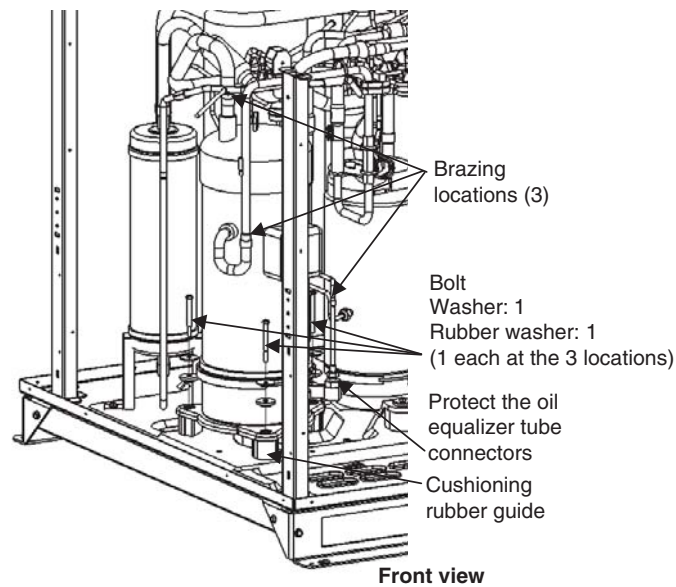

Fig. 28
- (6) Set the remaining cushioning rubber beneath the new compressor leg at the locations shown in the figure 28.
- (7) Remove the bolts which are temporarily fastening the 2 pieces of cushioning rubber, and anchor the 3 compressor legs using the bolts, washers, and rubber washers.
- (8) Insert the pre-shaped tube assembly at the 3 brazing locations indicated.
- (9) Connect the manifold gauge to the high- and low-pressure outlet ports at the outdoor unit where the compressor was replaced. Connect the manifold gauge to a nitrogen cylinder and perform nitrogen gas replacement.
- (10) Perform copper brazing at the 3 brazing locations.
In the same way as during removal, pay particular attention to protection of the oil equalizing tube connector parts shown in the figure 28.